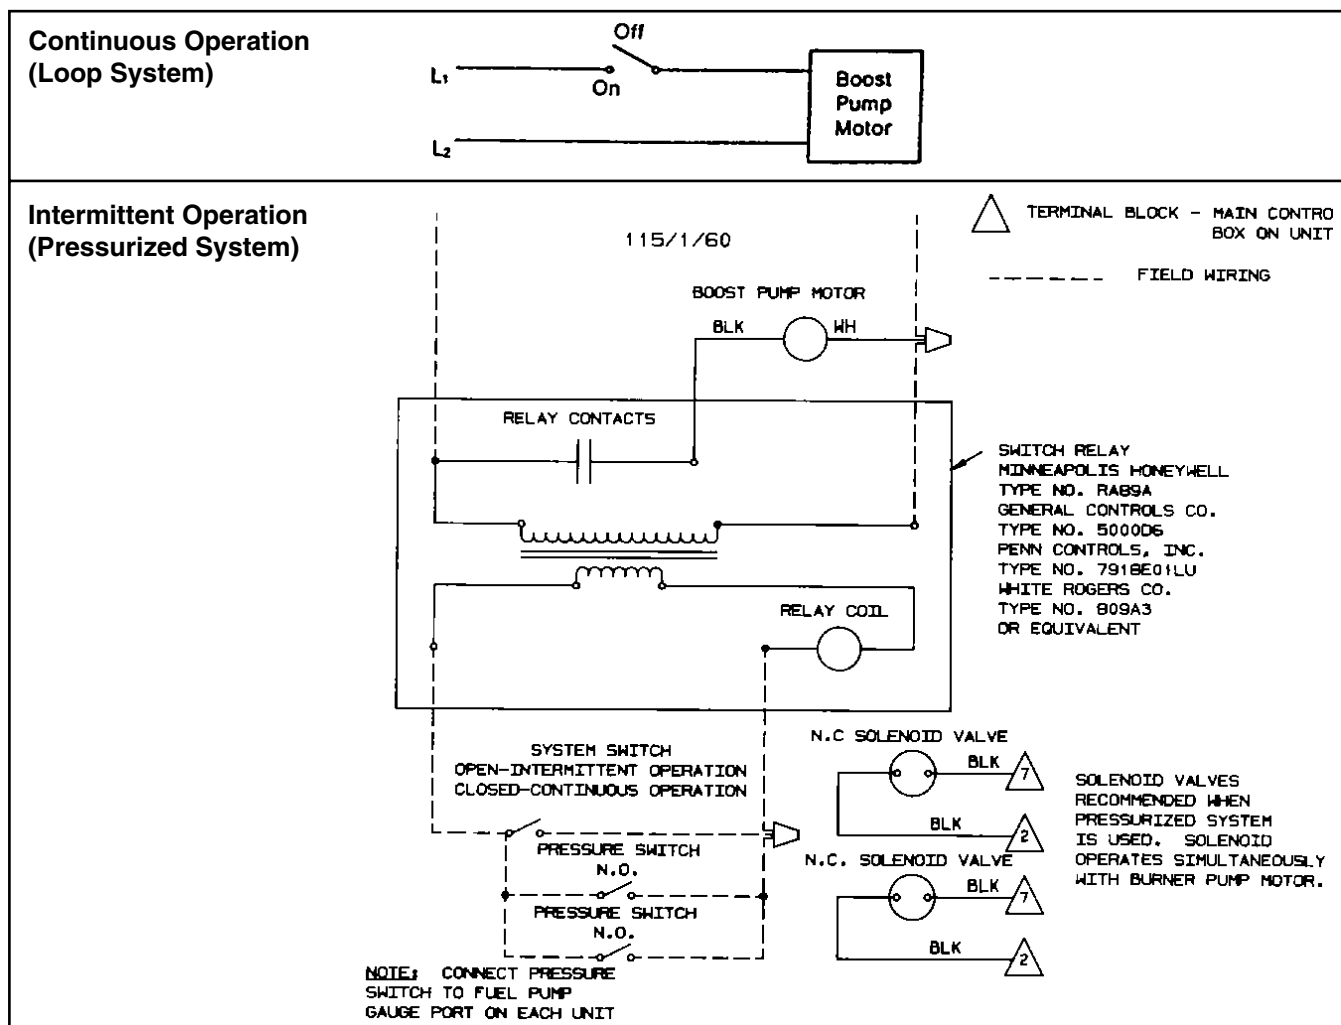

Figure 9. Boost Pump Wiring
- See Figure 9 for boost pump wiring.